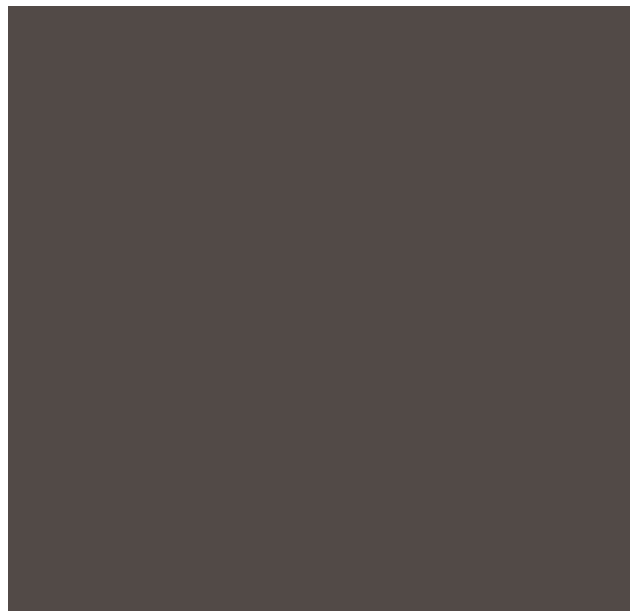

Figure 6-6. Flash Lamp Leads Released and the Lamp Terminal Housing Bent to the Side
4. Remove leads from side holes and bend the lamp terminal box on top of the POT out of the way, Figure 6-6.